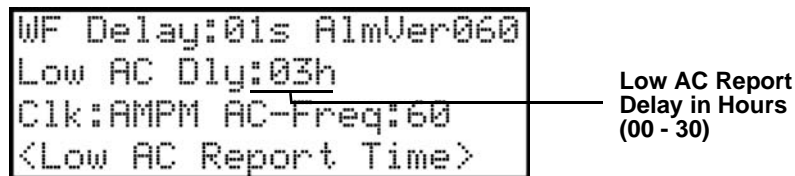

Figure 7-20 Low AC Report Delay Programming Screen
8. Enter the number of hours before a low AC report will be sent to the central station, then press ENTER. Refer to Figure 7-20.